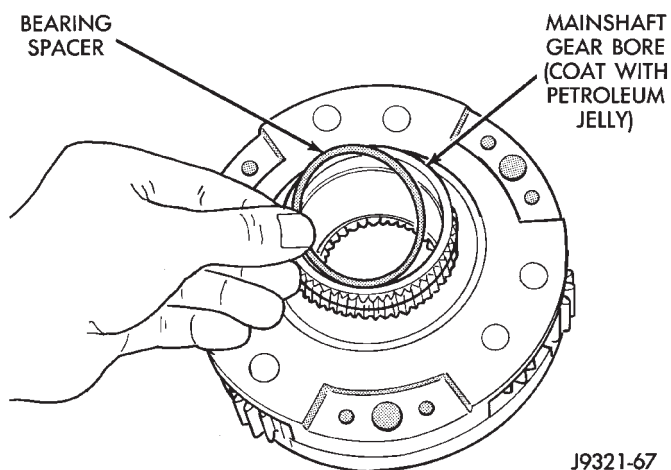

Fig. 73 Installing Bearing Spacer In Mainshaft Gear
(9) Install first needle bearing spacer in bore of mainshaft gear (Fig. 73).